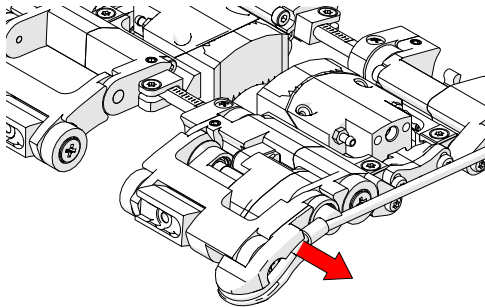

Fig. 44 - Remove encoder cable from clips
1. Remove the encoder cable from the clips along the side of the scanner (Fig. 44).